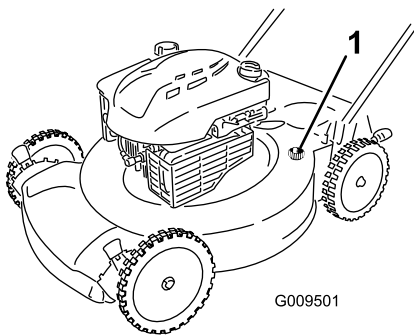

Figure 31
4. Attach a garden hose that is connected to a water supply to the washout port on the mower housing (Figure 31).